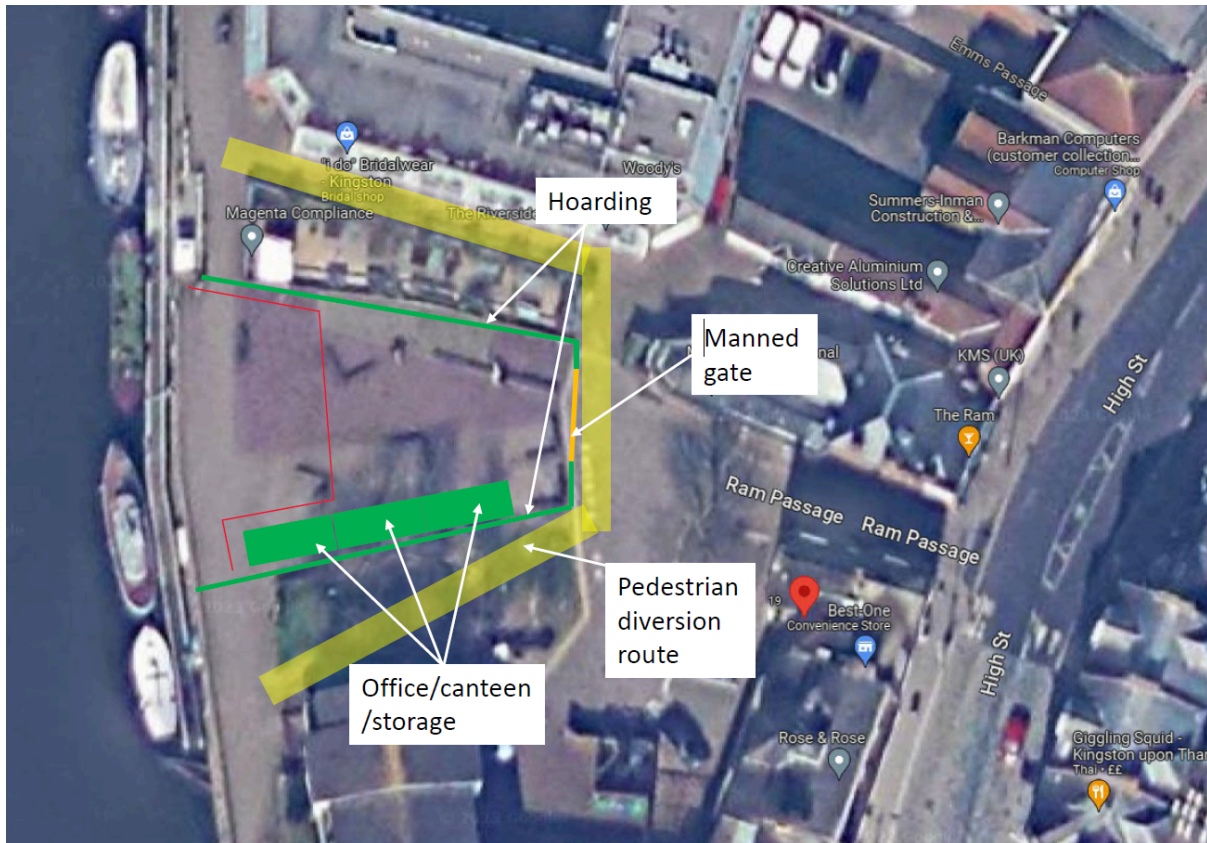

Figure 9.1 Site Layout
6.5. An area has been allocated (location 8 in Figure 9.1) for delivery vehicles to turn around on site to ensure all vehicles exiting or entering the public highway do so in a forward gear. This manoeuvre will be carried out with the aid of a banksman who will be available at the gate at all times.
9.3. The storage of plant, materials will be as per Figure 9.1